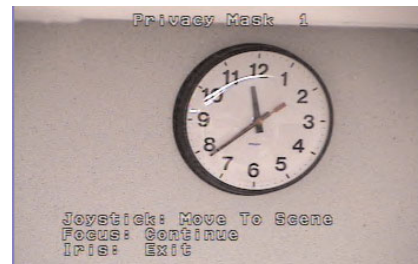

Figure 5B Reposition Camera
- FOCUS+ draws a new Privacy Mask (or edits an existing mask). A 1x1 block is drawn in the center of the screen (as shown in FIGURE 5B).
3. If desired, use the joystick to adjust the area to be masked. Pan, Tilt, and Zoom are all available to reposition the camera to the view that is to be masked. Press FOCUS to continue (as shown in FIGURE 5B).